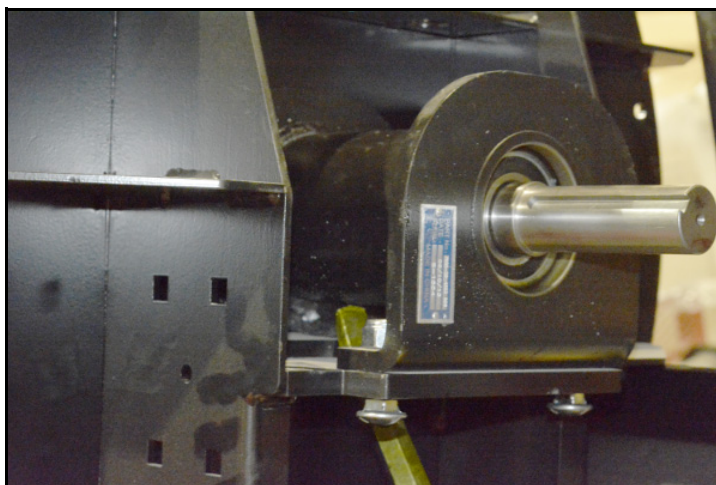

Figure 6.15 Pry Bar Position
- b. Before tightening the new bearing cartridge hardware, use a pry bar to push the bearing cartridge up tight to the pedestal and tighten fasteners (see Figure 6.15).